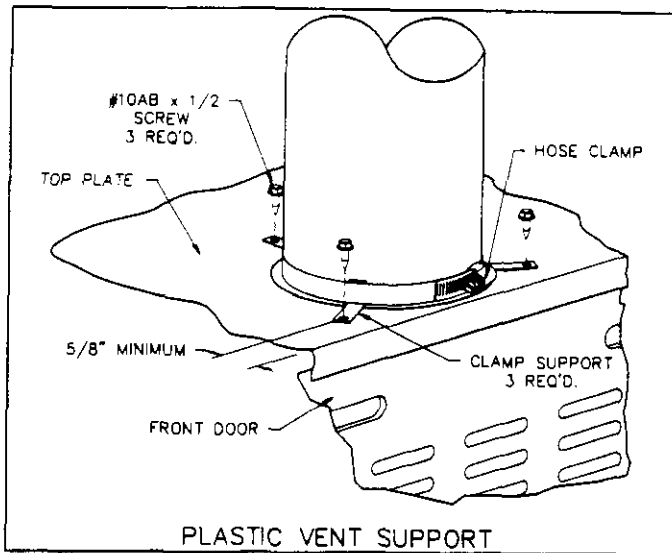

FIGURE 2
1. After the high temperature plastic pipe has been joined and sealed with Dow 736-RTV, assemble hose clamp and clamp supports as shown in Figure 2.
2. Equally space the (3) clamp supports provided under the hose clamp. DO NOT overtighten hose clamp.
3. Using the 1/4 in. diameter holes in the (3) clamp supports, drill (3) #29 (.136) holes in the top plate. Holes should be drilled no closer than 5/8 of an inch from front edge of top plate to avoid interference with front door.
4. Secure clamp supports to top plate with (3) screws provided. See Figure 2.